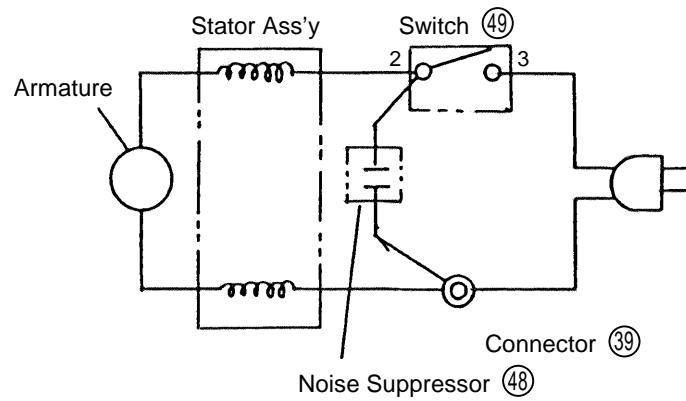

Fig. 3
(5) Wiring Diagrams (See Figs. 3 4):